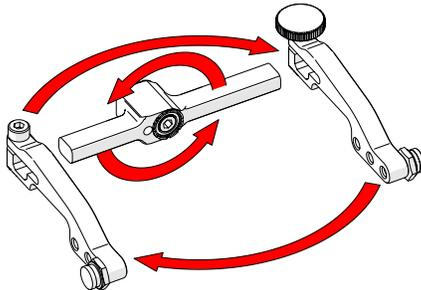

Fig. 92 - Flip yoke and reverse arms
4. Flip the yoke 180° and reverse the probe holder arms (Fig. 92).